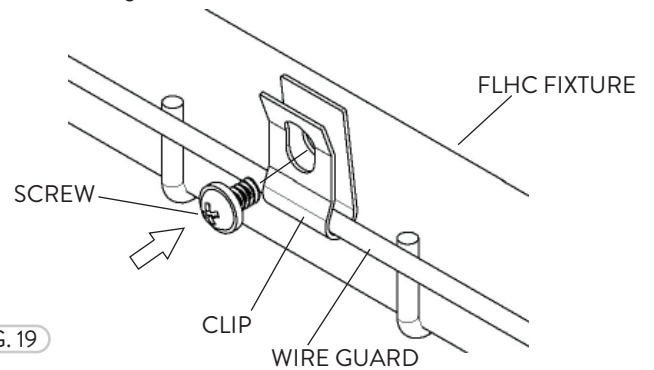

FIG. 19
- 2 Use the (four) formed Clips to fasten the Wire Guard onto the FLHC Fixture. This is done by using the (four) holes located on the ends of the fixture (Fig. 19).